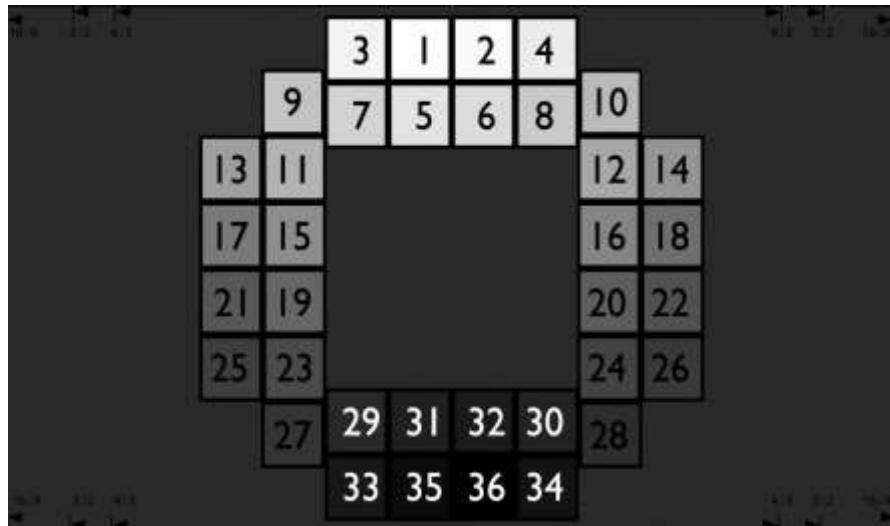

Figure 41. TE269 Test Chart Showing Location of Each Patch
3. Install the glass TE269-36 patch OECF chart into the Test Chart Illuminator (see Figure 41).
11. Measure and record the Luminance of each patch on the Test Chart. Figure 41, shows the location of each patch by number.